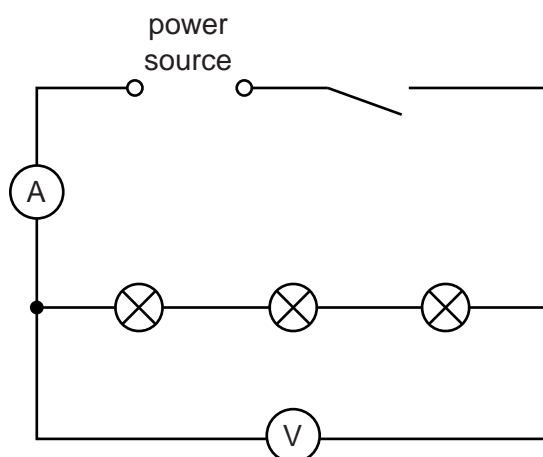

Fig. 3.1
- (ii) Ammeter capable of measuring current up to double the current in the circuit shown in Fig. 3.1, with a minimum resolution of 0.05 A.
- (iv) Three identical lamps. Any low-voltage lamps will suffice, provided that they glow when connected in the circuit shown in Fig. 3.1 and do not ‘blow’ if connected in parallel with the power source.
1. The circuit is to be set up for the candidates as shown in Fig. 3.1.
Reconnect the circuit as shown in Fig. 3.1. Check the lamps.